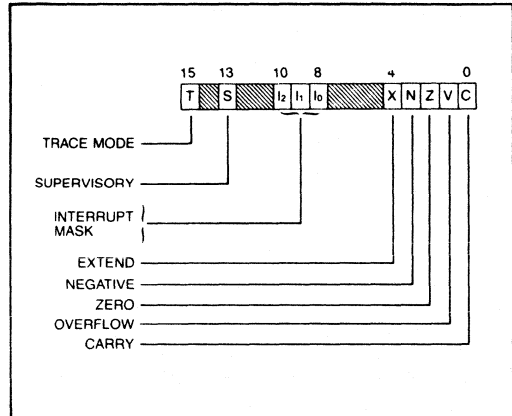

Figure 3: MC68000 Status Register
The Status Register (Figure 3) contains the Interrupt Level Mask (8 levels available) as well as the Condition Code; Overflow (V), Zero (Z), Negative (N), Carry (C), and Extend (X). Additional status bits indicate that the processor is in a TRACE (T) mode or in a SUPERVISORY (S) state. Ample space remains in the Status Register for future extensions of the M68000 family.